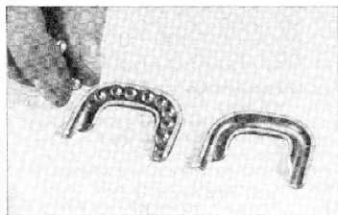

Fig. 44—Filling Ball Guides
3. Lay one-half of ball guide, groove up, on the bench and place the remaining balls from the count container in one-half of the ball guide (fig. 44). The number of balls remaining should just fill the guide.